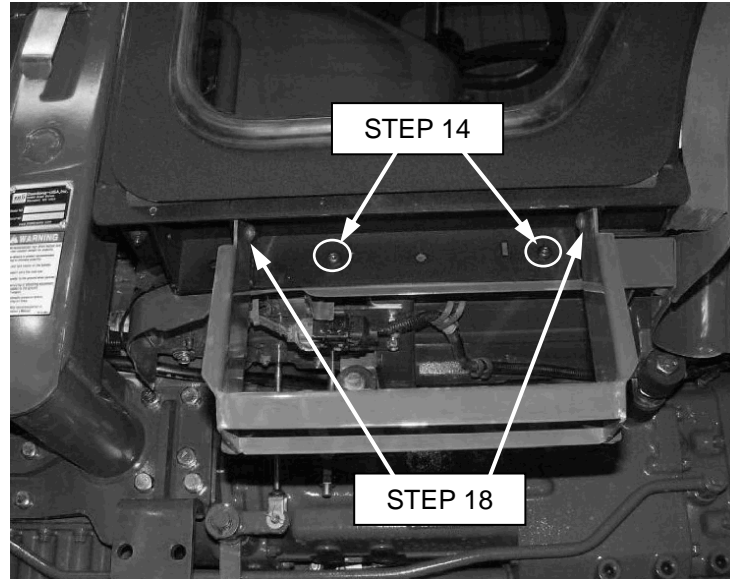

Figure 6
18. Remount platform steps to each side of cab reusing the same hardware from step 3. See figure 6.